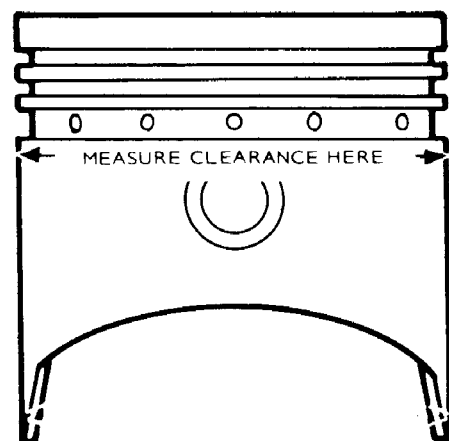

FIGURE 41. MEASURING PISTON CLEARANCE
2. Measure the piston to cylinder clearance as shown in Figure 41 to be sure the total clearance follows specifications.